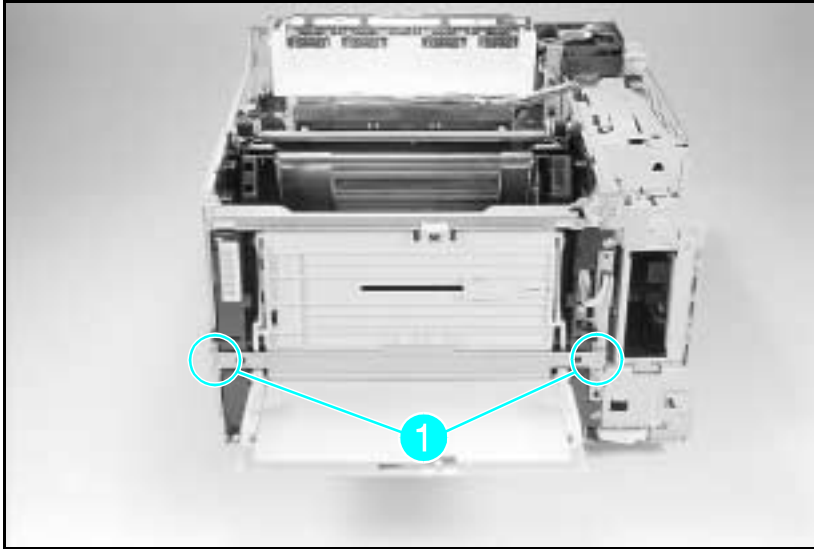

Figure 6-11 Remove the Crossmember Bracket
- 3** Remove the (2) screws in the Cross-member Bracket as shown in Figure 6-11, callout 1. Remove the Cross-member Bracket.
- 2** Remove the MP Tray (Tray 1) door, the Front Cross-member (Figure 6-11), and the MP Tray.